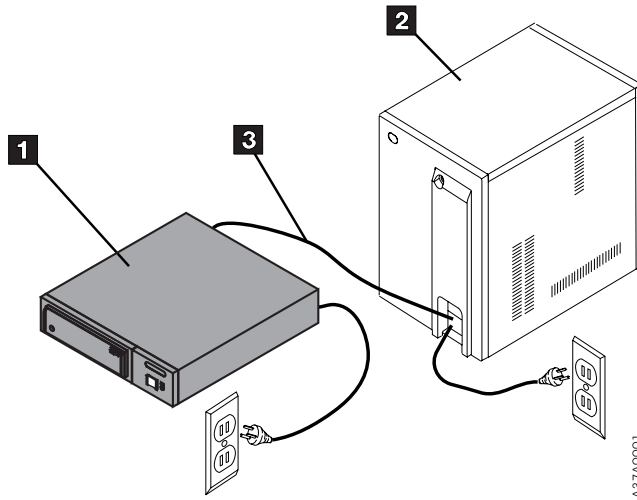

Figure 16. Safety Inspection
Figure 16 shows the components to review during the service inspection.
2. Turn off the power to the 7207-122 Tape Drive (**1** in Figure 16).